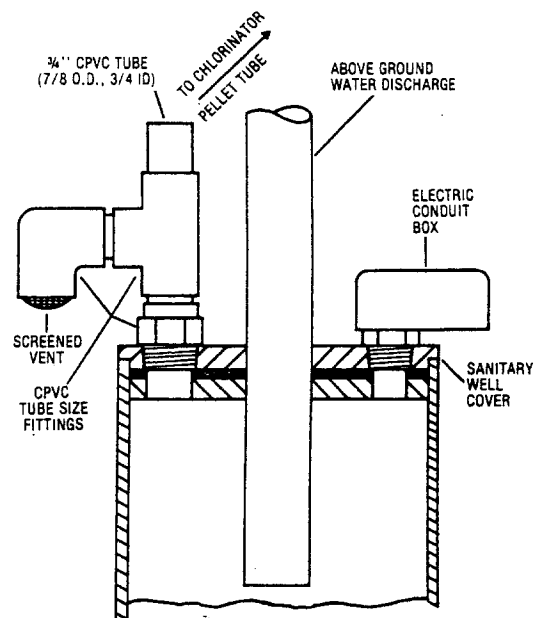

Figure 5
3. If a 3/4 NPT threaded hole is not available, drill a 15/16 inch (2.4 cm) diameter hole through the cover as shown (Figure 5). Tap the top plate with a 3/4 inch pipe tap and install a PVC 3/4 inch male adapter (male pipe thread x slip).
4. Assemble the vent/pellet discharge tube unit by solvent bonding together CPVC tube and fittings and install a screen in the 90° elbow as shown (Figure 5).